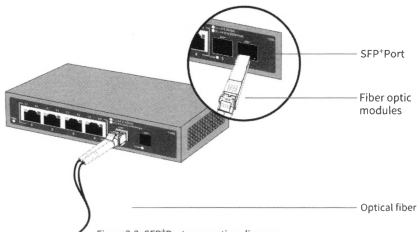

Figure3-2: SFP+Port connection diagram
3.2.1 Grasp the fiber module from the side and insert it smoothly along the switch SFP port slot until the fiber module is in tight connection with the switch as shown in Figure 3-2.